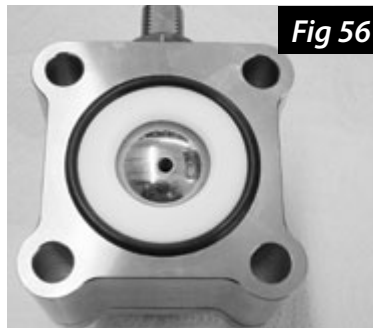

Fig 56
10. Position the second lubricated Teflon® seat and body seal o-ring onto the center section as shown in (Fig 56).